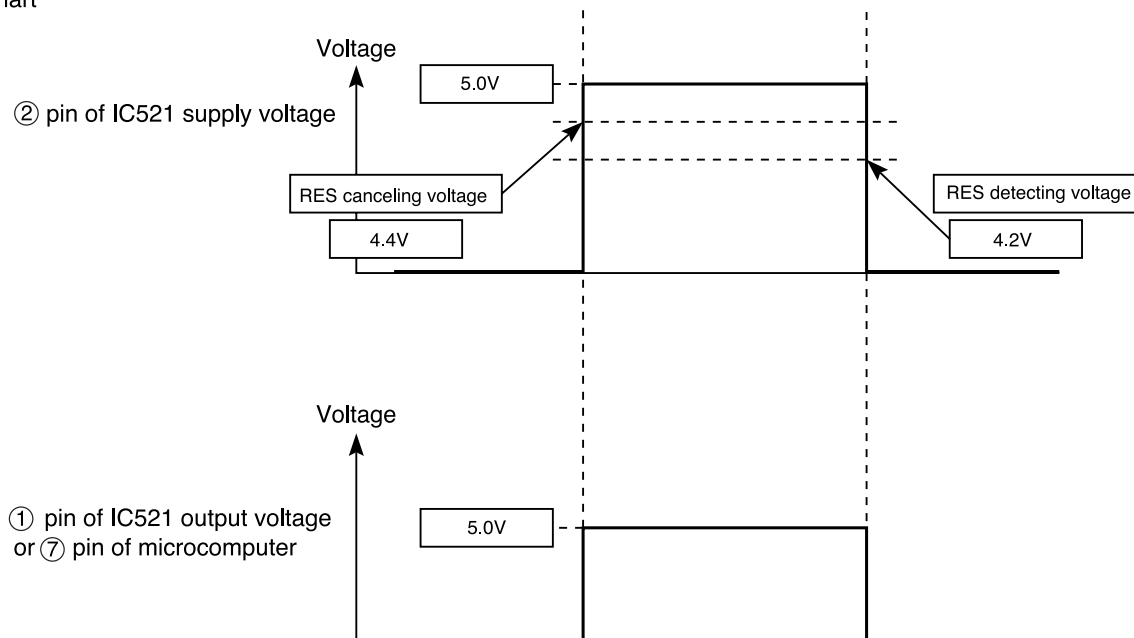

Fig.2-2
- Microcomputer operates when ⑦ pin of the indoor unit microcomputer (reset input) is "Lo" for resetting and "Hi" for hitting.
- Waveform of each part when switching ON the power and when shutting down is shown in the Fig. 2-2.
- After switching ON the power, ① pin of IC521 and ⑦ pin of microcomputer becomes Hi when DC5V line rises and reaches approximately 4.4V or higher.